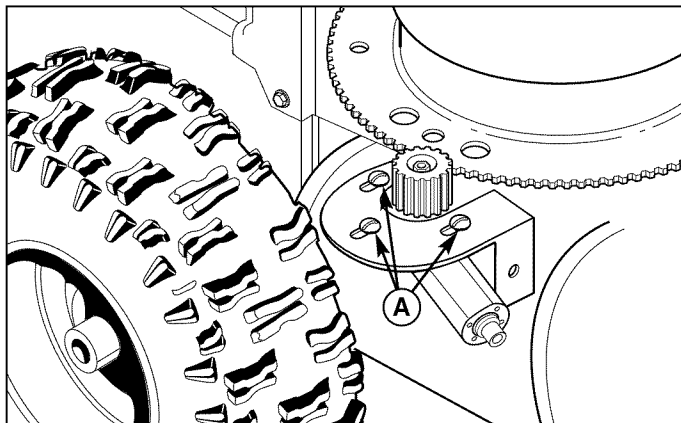

Figure 24. Chute Rotator Motor Adjustment
3. Loosen the screws (A, Figure 24) securing the rotator motor and adjust so that the motor gear and chute ring gear mesh. Tighten the capscrews.